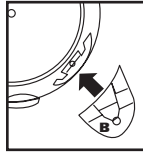

FIGURE 8
6. Take caster foot marked with the letter **B** and place into slot on right side of tank, also marked with the letter **B**. **FIGURE 8.**